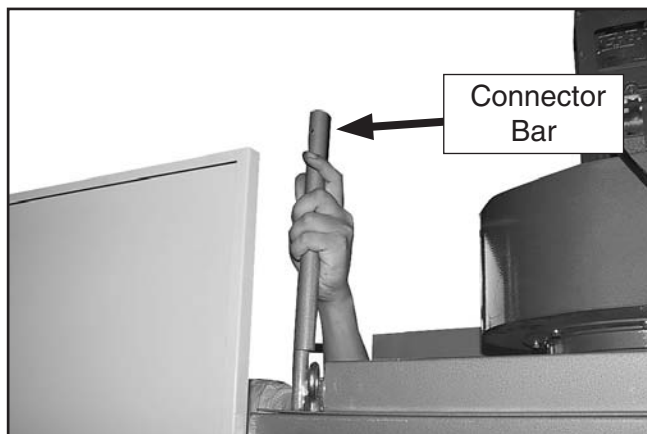

Figure 9. Inserting connector bar.
4. Insert a connector bar into the socket on each curtain brace, as shown in **Figure 9**.